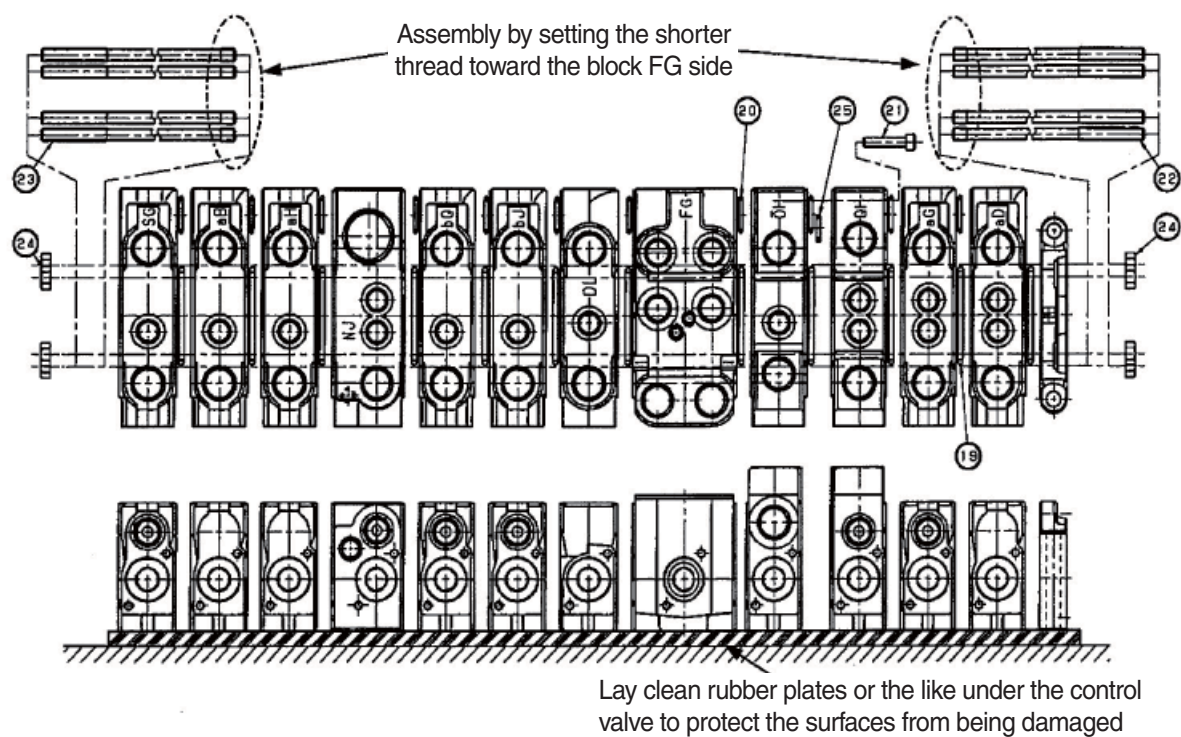

Figure 10. Block assy
(1) Assembling block (see figure 10 and 11)
- ① On a surface plate with clean rubber plates on it, place blocks with actuator port surface facing upward in the order shown in "Orders of assembling bodies" on the next page.